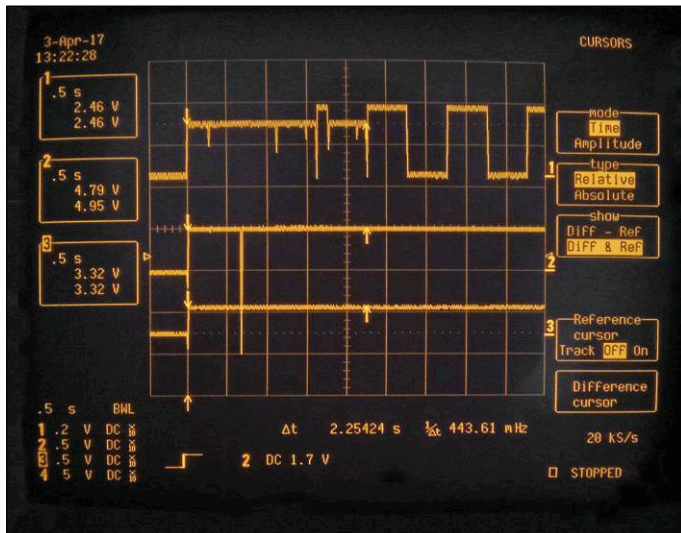

Figure 4. It takes more than two seconds for the blink program to start running.
2.5 seconds to get ready for action (see **Figure 4**).